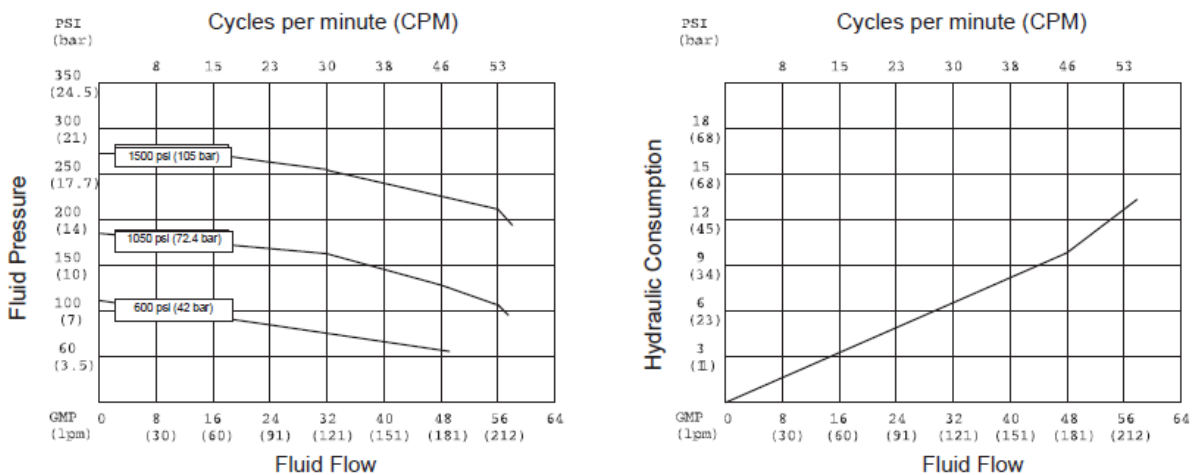

Figure 5 Pump performance charts
3. Determine the hydraulic oil consumption rate for all the hydraulic motors in the system at the required cycle rate. Check the pump performance charts for the selected pump for this information. See Figure 5 for an example of a pump performance chart.